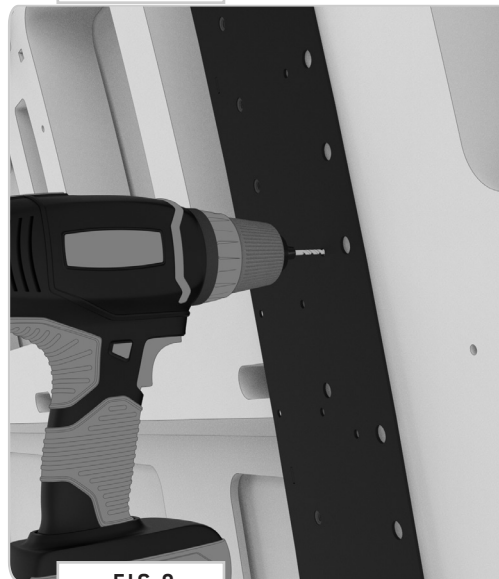

FIG 8
4.2 Securing the Driver Side Front Bracket: Double-check your measurements against your marks and proceed to secure the **Driver Side Front Bracket** by drilling through all of the **Rivet Holes** (**FIG 8**) and painting with a rust preventative paint.